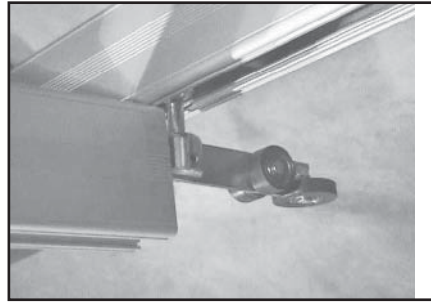

Figure 29
27. Slide the traverse rail onto the wheeled trolley suspended under the parallel rail (Figure 29). DO NOT TILT RAIL.
6. Slide the rail off of the 4-wheeled trolley (see Figure 29). DO NOT TILT RAIL.